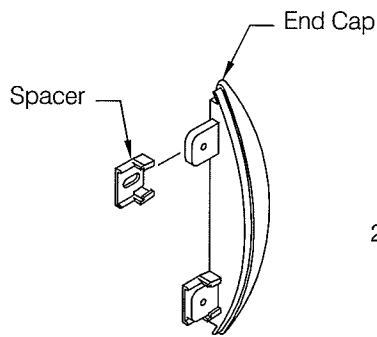
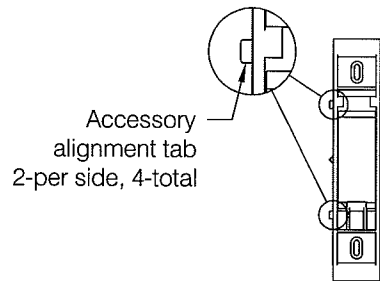
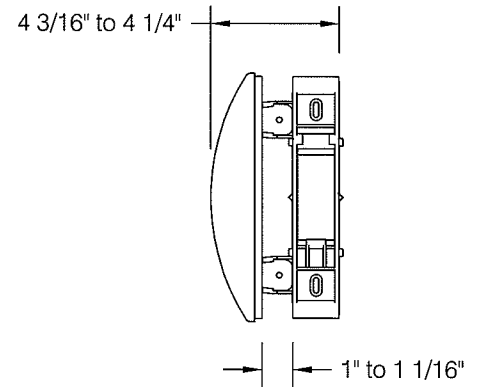

fig 4
fig 5
fig 6
Step 3: A Red-E-Clip[®] must be installed adjacent to each molded accessory. Begin by installing a spacer on each of the accessory mounting tabs, see **fig 4**. The Red-E-Clip[®] has four accessory alignment tabs used to facilitate positioning of the molded components with respect to the clip, see **fig 5**. Temporarily locate the accessory and Red-E-Clip[®] combination by holding them temporarily in their desired position. Remove the accessory and fasten the Red-E-Clip[®] in place. It is also possible to locate the clip by measuring 4 3/16" to 4 1/4" from the outer edge of the desired accessory location or 1" to 1 1/16" from the inner edge, see **fig 6**.